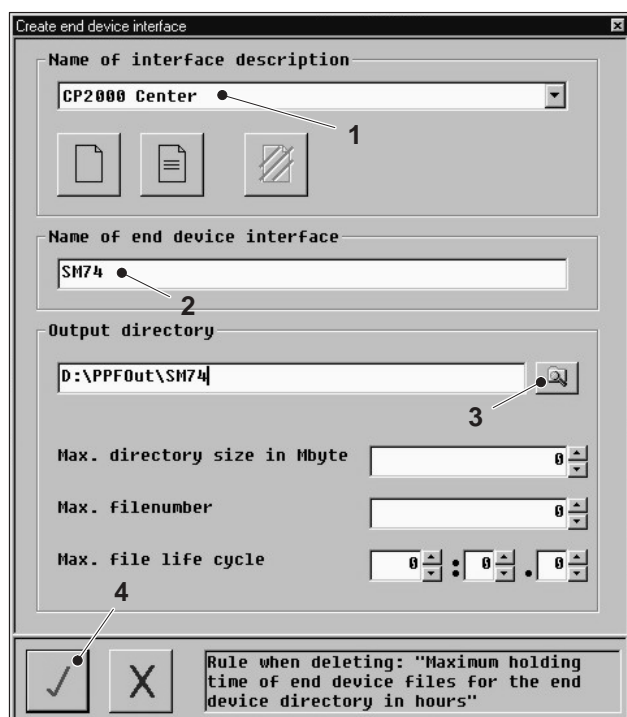

Fig. 12 Defining an interface
- 5 Select the name of the interface description (CP2000 Center or ImageControl, Fig. 12/1))
- 6 Enter the name of the end device (e.g. designation of the printing press, SM 74) (Fig. 12/2).
- 8 Open window (Fig. 12/3).
- 10 Save input with the ☒ button (Fig. 12/4).